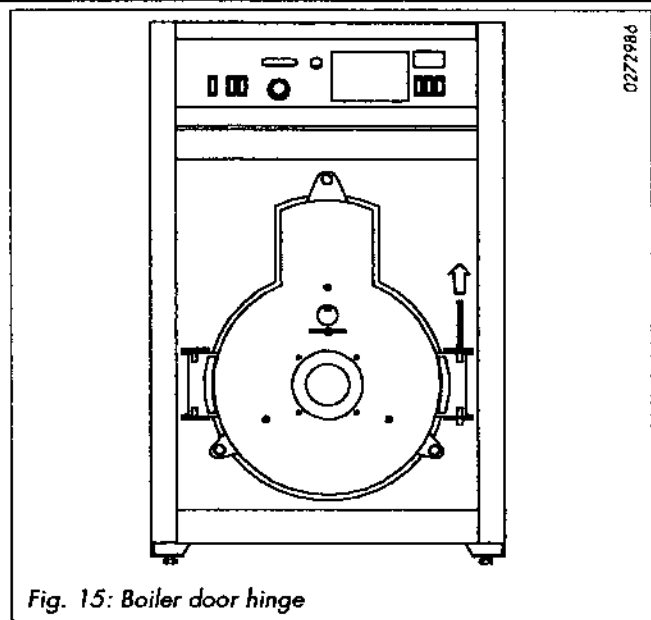

Fig. 15: Boiler door hinge
- Undo the bolts from the boiler door - Swing out the door complete with burner - if necessary remove the boiler door, to do this, withdraw the pin upwards from the hinge (Fig. 15).